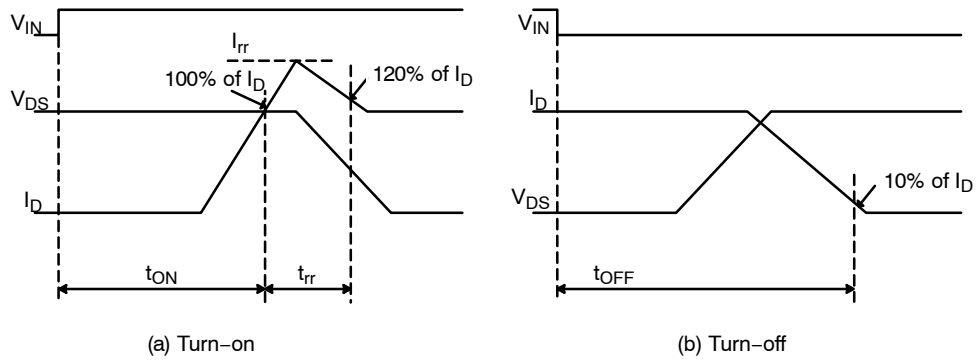
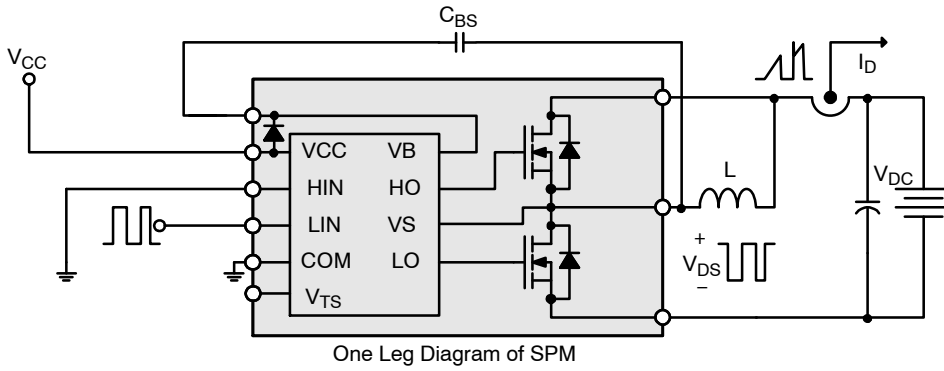

Figure 6. Switching Time Definitions
Figure 7. Switching and RBSOA (Single-Pulse) Test Circuit (Low-side)
- t_{ON} and t_{OFF} Include the Propagation Delay Time of the Internal Drive IC. Listed Values are Measured at the Laboratory Test Condition, and They Can be Different According to the Field Applications Due to the Effect of Different Printed Circuit Boards and Wirings. Please see Figure 6 for the Switching Time Definition with the Switching Test Circuit of Figure 7.
- The peak current and voltage of each MOSFET during the switching operation should be included in the Safe Operating Area (SOA). Please see Figure 6 for the RBSOA test circuit that is same as the switching test circuit.